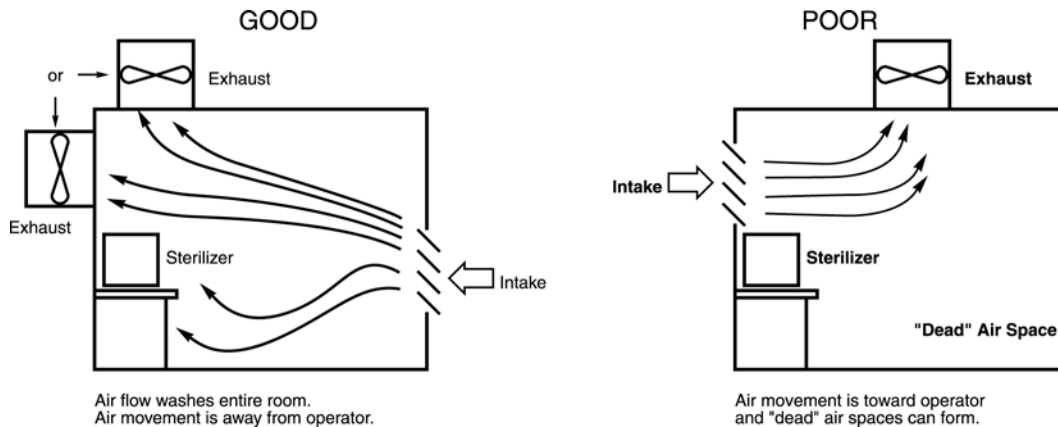

Figure 3. Ventilation Requirements.
- ☐ The location is well-ventilated with at least 10 air changes per hour. The flow of air is away from the equipment operator (see Figure 3). Recommended room size is 30 m³ (1,000 ft³).